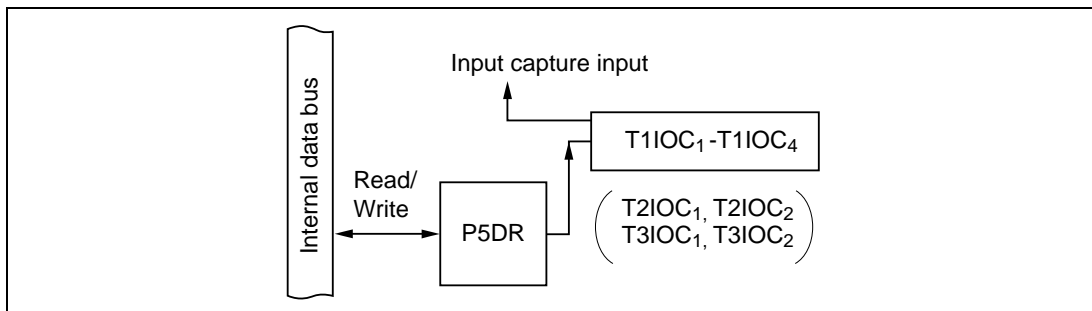

Figure 10-32 Input Capture Combined with General-Purpose Output (Modes 1 to 7)
(4) Timer Input Combined with General-Purpose Output (Modes 1 to 7): Figure 10-32 shows a block diagram illustrating the input capture function when combined with general-purpose output. Table 10-24 indicates register read/write data. An input capture pin can also function as an output port, in which case the output value is input to the timer.